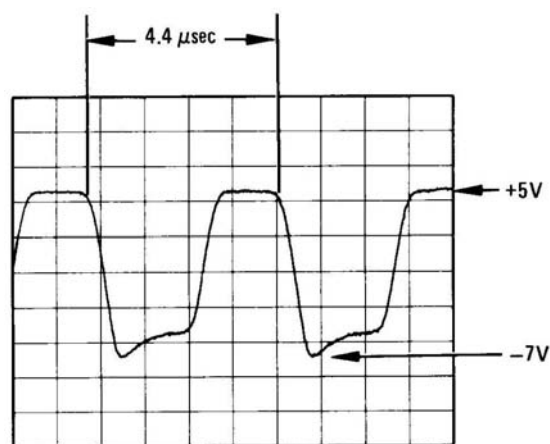

FIGURE 8-4. DPM CLOCK OUTPUT
**Display digits freeze intermittently:** Be sure the clock oscillator signal goes at least  $-7V$  negative and appears as in Figure 8-4. Low gain (Gm) of A1A2Q8 is the most probable cause for failure. Resistor A1A2R1 is factory selectable; increasing its value increases the amplitude of the clock output,